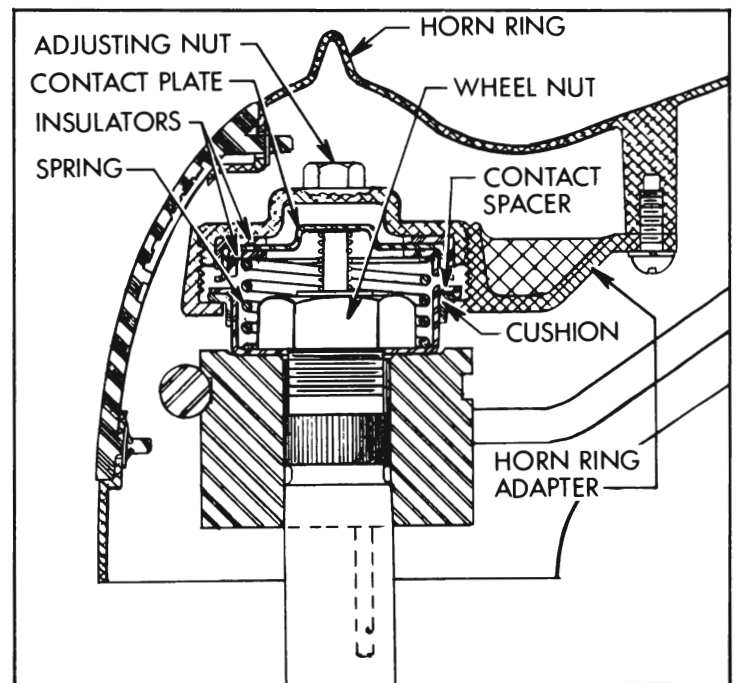

Figure 10-67—Horn Operating Ring Installation
horn operating parts, (1) remove the operating ring by removing three cross-recess screws from underneath, (2) unscrew and remove the adjusting nut, (3) remove the contact plate and spring, with the two insulators, (4) remove steering wheel nut, (5) remove contact spacer, cushion, and horn ring adapter. See figure 10-67.